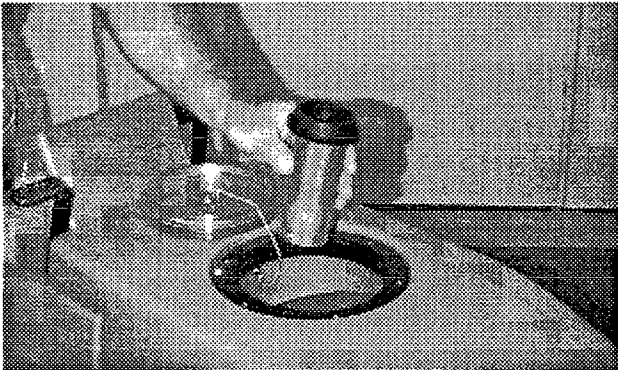

FIG. 24
2. Remove and clean lint from ball float shutoff screen located in recovery tank. (Figure 24)